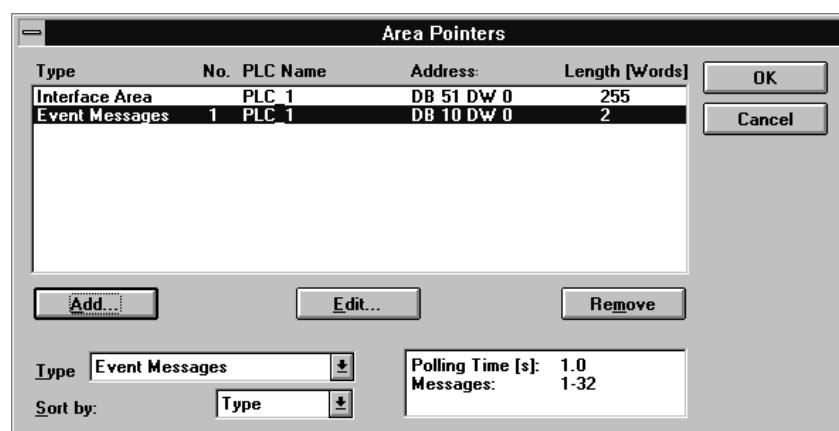

Figure 8-4 Area Pointers Dialog Box
1. Choose *System → Area Pointers* from the menu to create the event message area. The *Area Pointers* dialog box is opened (figure 8-4).